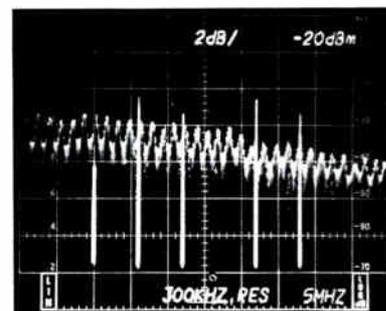

Figure 5
3) Multiple serrations, as in Figure 5, are reflections. Care should be taken to insure that the test cables are not the cause. When in doubt, 10 dB pads should be inserted at the extremities to dampen reflections.